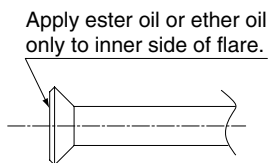

Fig. 5
- **Apply ether oil or ester oil only to inner side of the flare** and screw in the flare nut three to four turns first by hand at the time of connecting the flare nut. (Refer to Fig. 5)